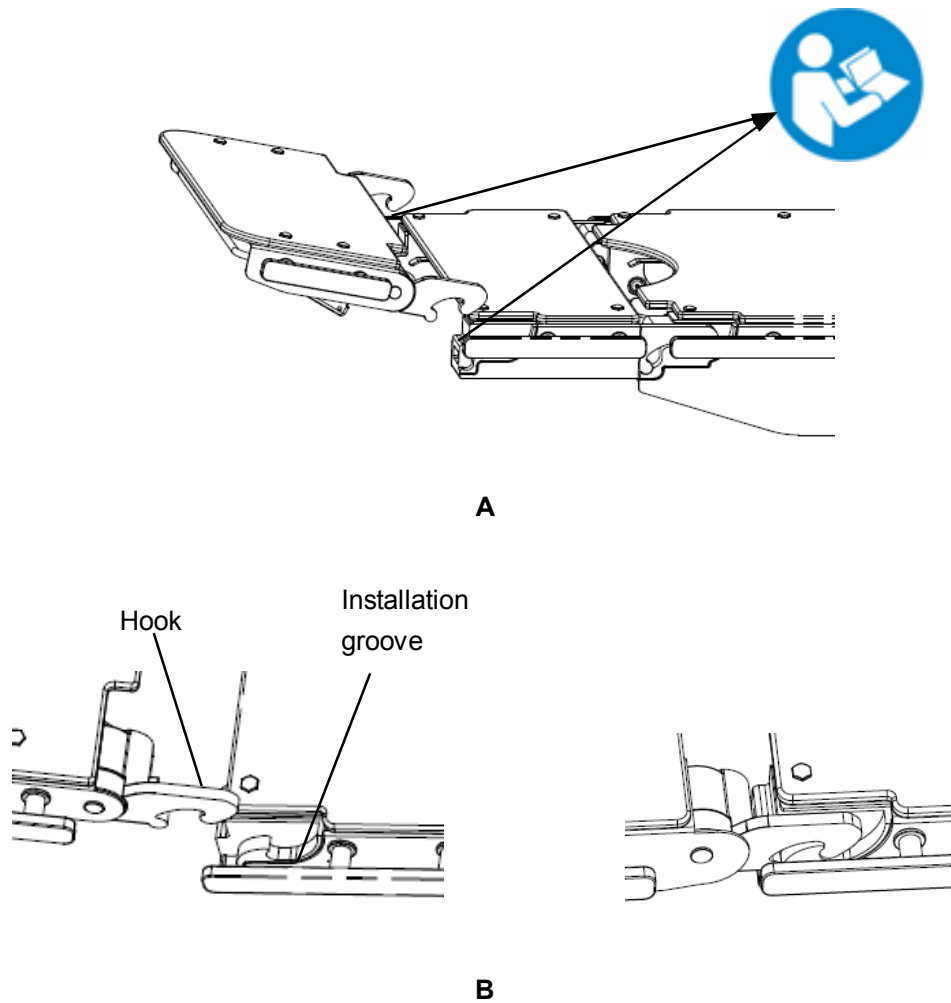

Figure 2-36 Installing the dual-joint head plate
2. As Figure 2-36 (A) shows, hang the head plate onto the installing grooves. The head plate is reliably installed if you hear a click.
3. Make sure the hooks are hung fully as figure 2-36 (B) shows.